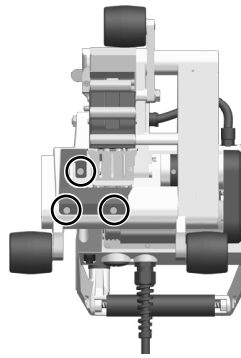

Figure 2
- Loosen the three countersunk screws on the cable protection plate (Figure 2) and remove the cable protection plate.
- Reattach the cable protection plate with the three countersunk screws (Figure 2). Make sure that the cables of the heating cartridges and the temperature probe are not pinched.